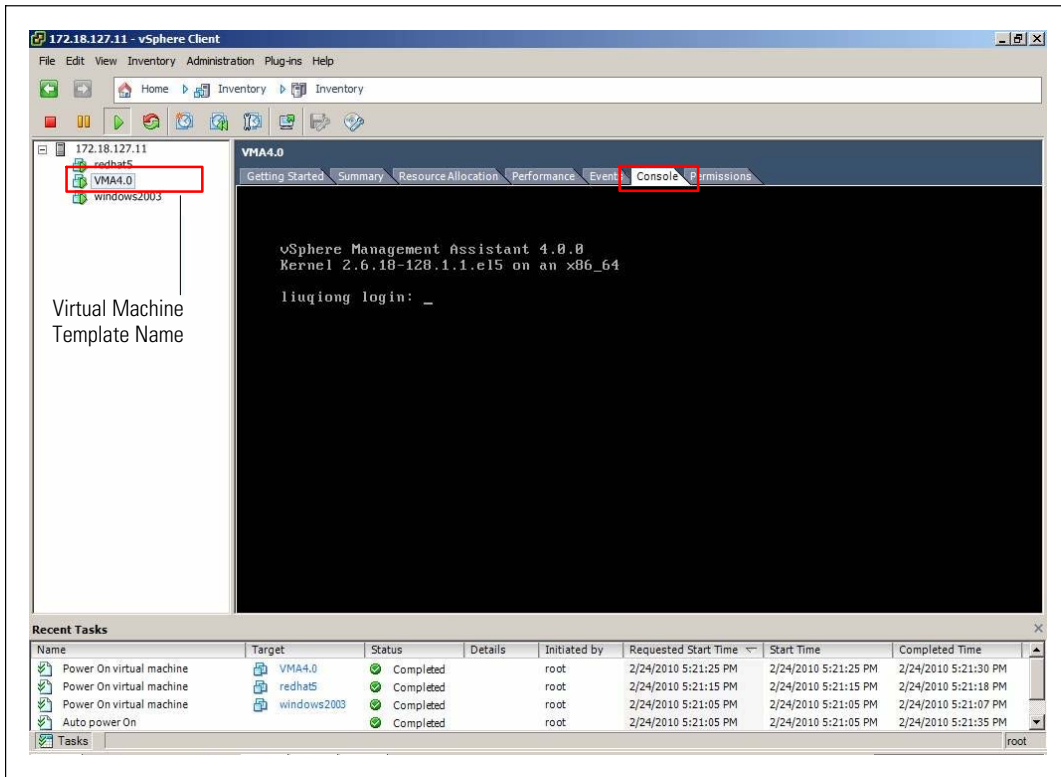

Figure 109. Console Window
- 1 On the VM Templates page, select the virtual machine template name and then select the Console tab. The virtual machine console displays (see Figure 109).